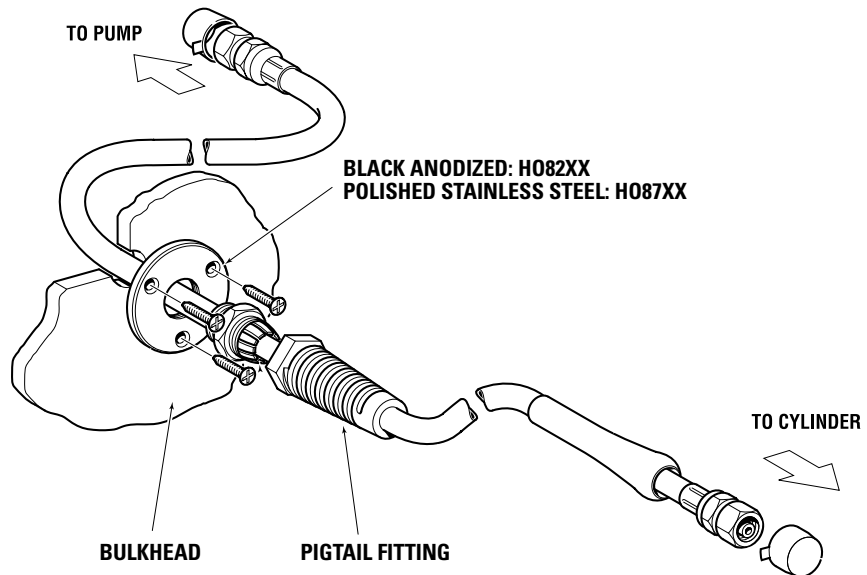

Figure 4-12. Single bulkhead plate.
1. Bulkhead hoses are used when the hose must pass through a bulkhead. They are supplied with your choice of polished stainless steel or black anodized aluminum bulkhead plates, and come with pigtail fittings to secure the hoses. See figure 4-12.